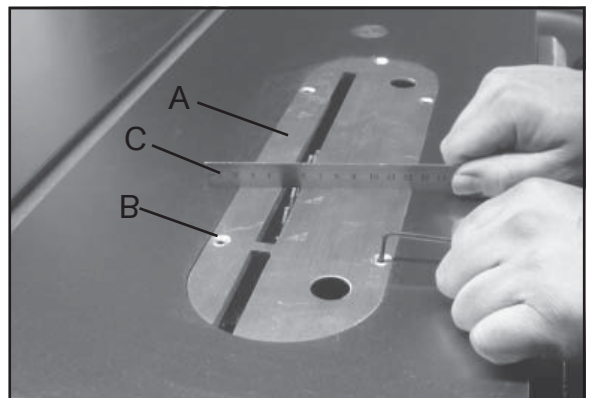

Figure 23
1. Adjust table insert (A, Fig. 23) flush with table by turning four leveling screws (B, Fig. 23).
2. Use a straight edge (C, Fig. 23) to make sure the insert is flush with the table.